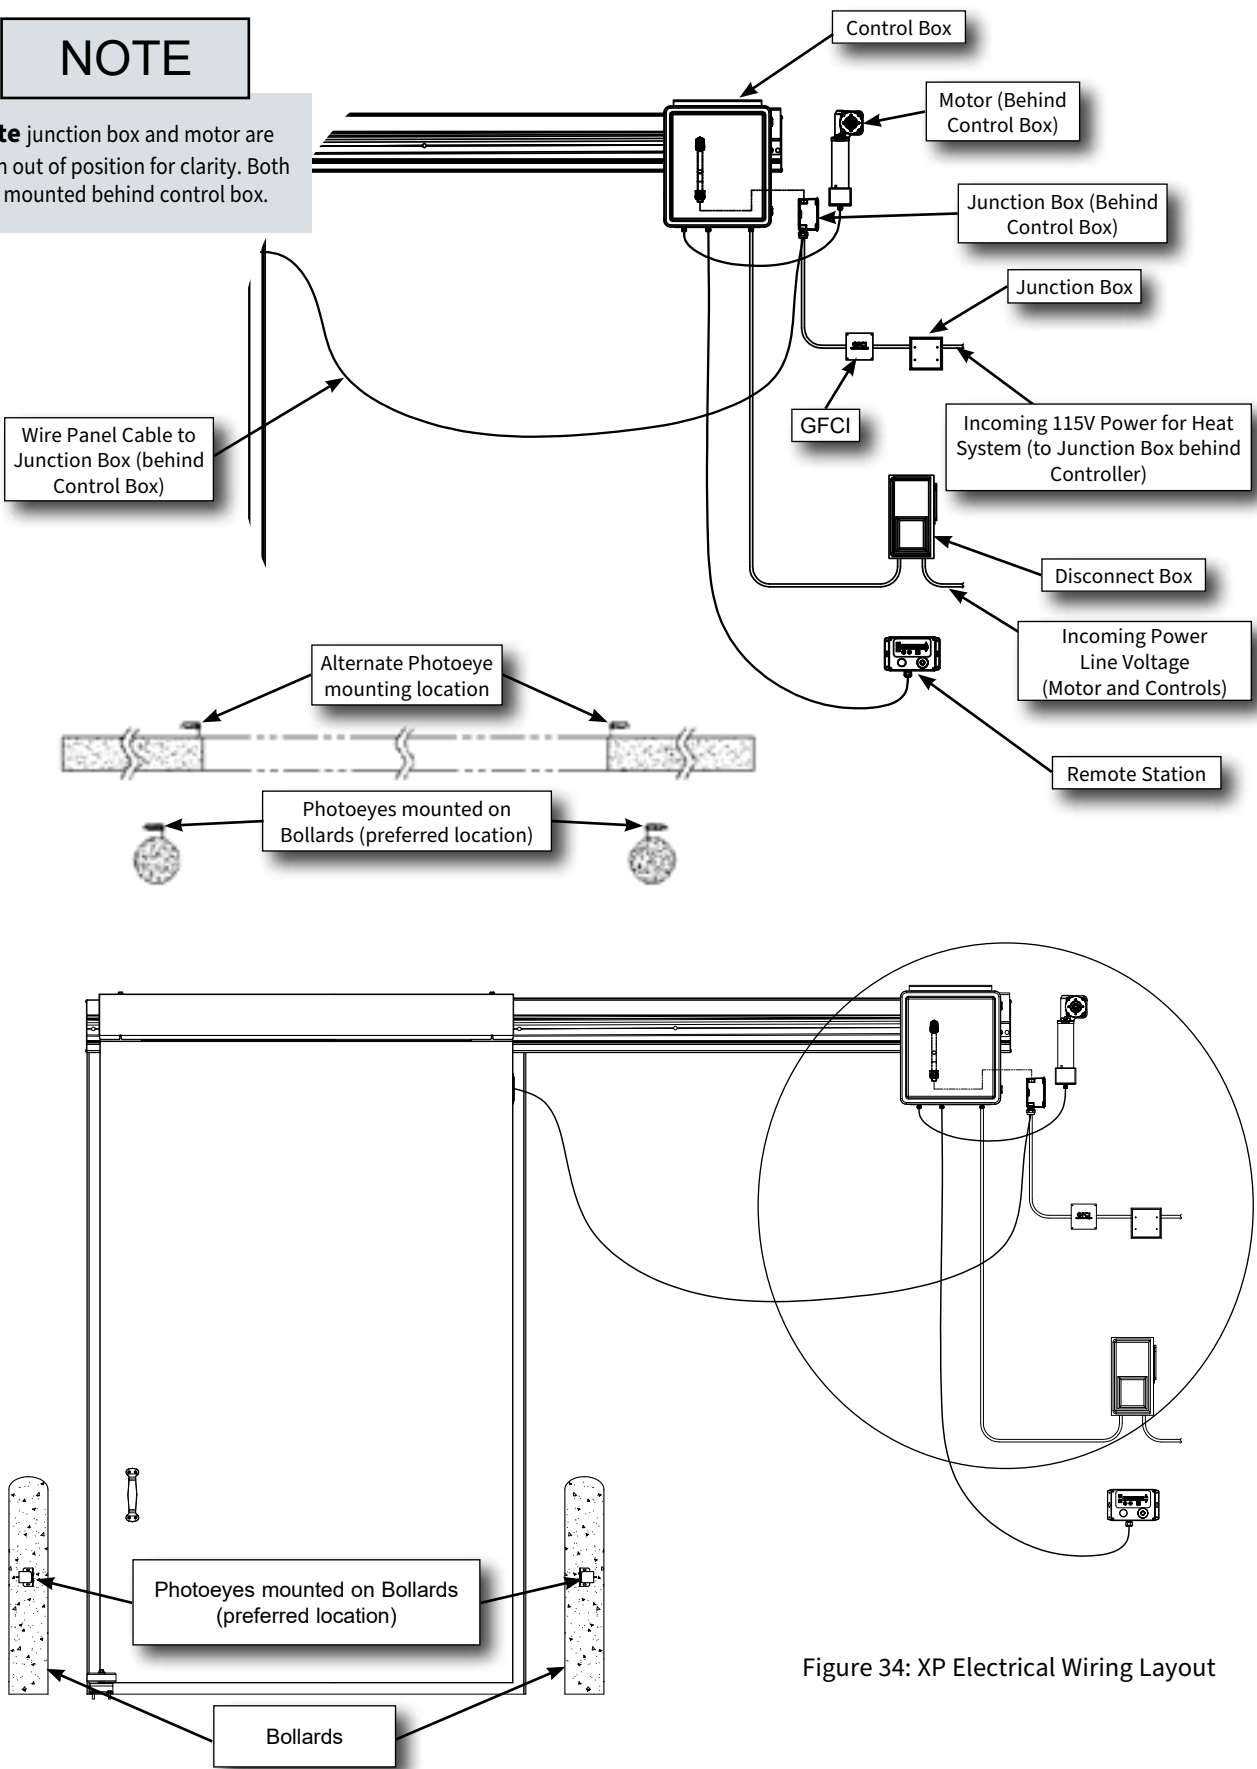

Figure 34: XP Electrical Wiring Layout
- 1 Locate idler assembly on header rail assembly. On RH operator doors, will be on left side of header, near end of trolley cover on LH side (Figure 34). For LH operator doors will be on RH side. Check belt tension. Belt should be reasonably tight but deflect between 1/2" to 1" at center of belt with mild finger pressure. Visually inspect belt for wear and missing or damaged teeth.